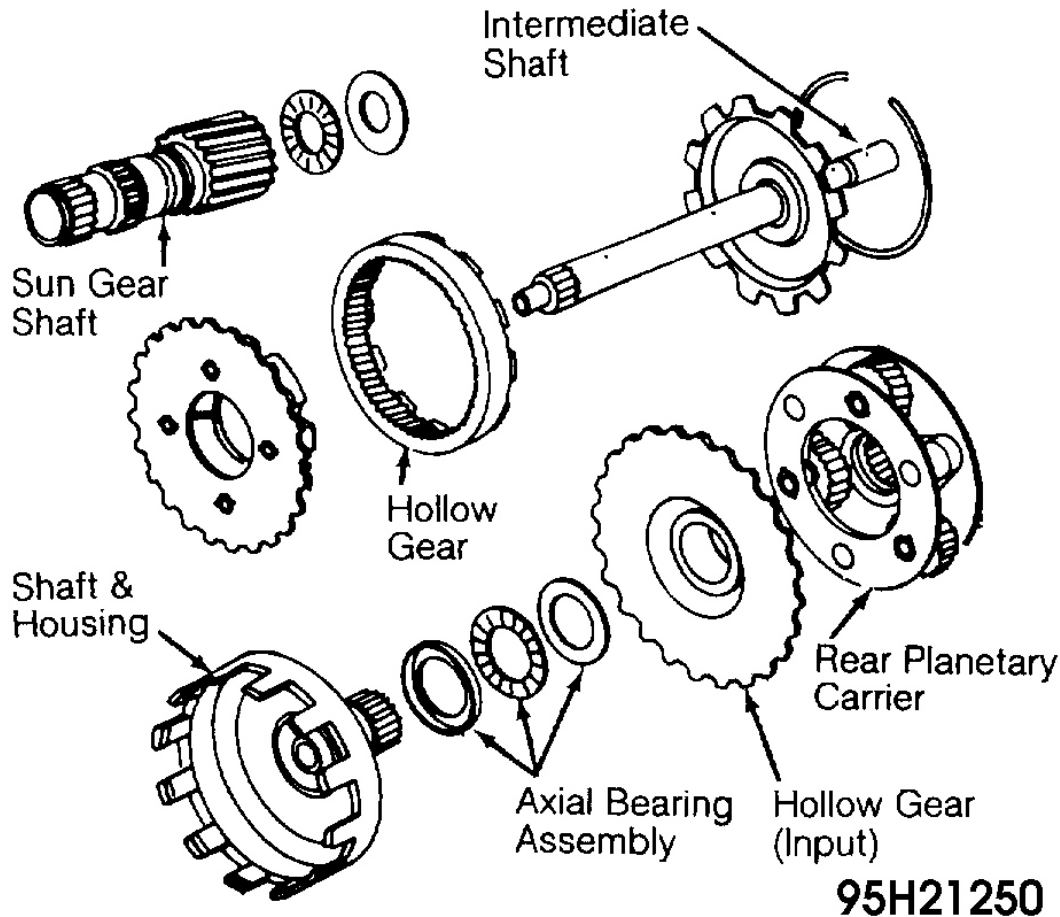

Fig. 20: Exploded View Of Rear Planetary Gear Assembly
1. Support assembly with output shaft facing downward. Remove one-way clutch and front planetary gear set. Remove sun gear shaft. Remove snap ring and remove hollow gear. Remove rear planetary carrier. See **Fig. 20**.